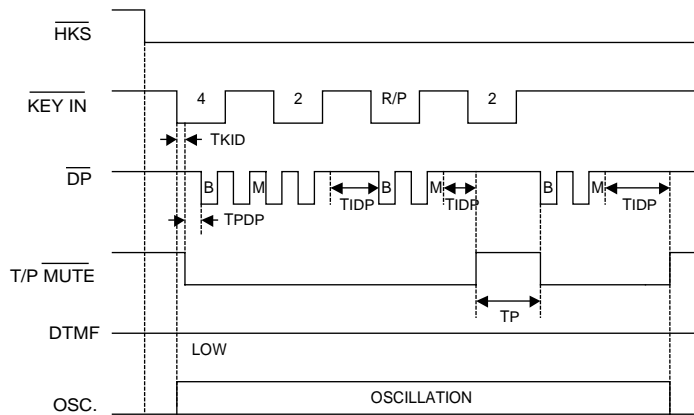

Figure 3. Pause Function Timing Diagram
- 3) The pause function timing diagram is shown in Figure 3.